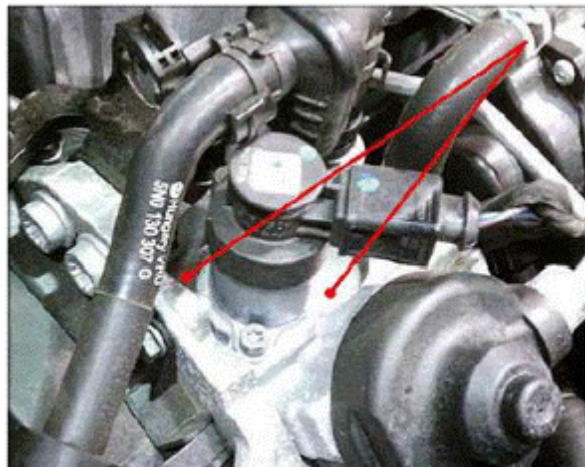

Figure 1. Area surrounding N290 fuel metering valve.
1. Prepare to remove the N290 fuel metering valve by first cleaning the area around the valve then drying the area using compressed air (Figure 1). All debris must be removed from the area to ensure that no debris enters the fuel system and causes damage.